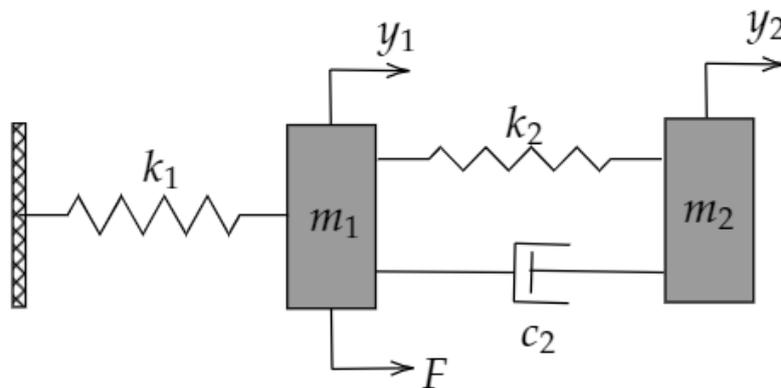

Figure Q4: Spring-mass-damper system with two masses.
- a) Derive the differential equations describing the behaviour of the spring-mass-damper system shown in **Figure Q4**. (8 Marks)